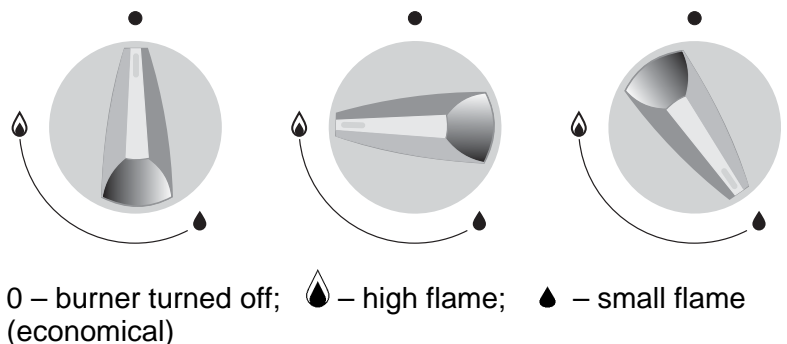

Fig. 16
- Flame height depends on the control knob position (Fig. 16). Adjust the flame only between  and .